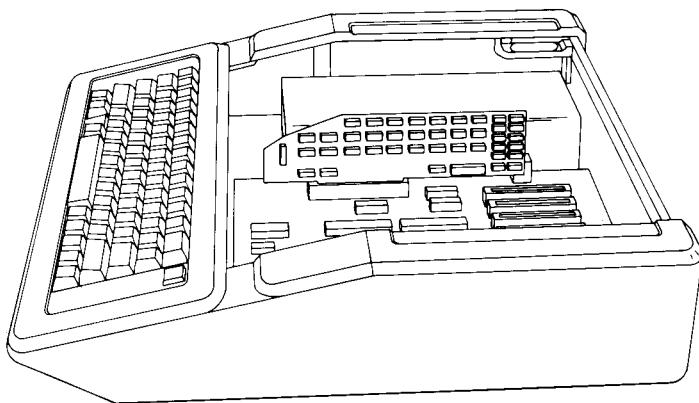

Figure 2.5. Installation of SoftCard IIe
10. Align the SoftCard IIe circuit board in the AUXILIARY CONNECTOR slot so that the edge-connector is directly over the connector in the slot. The component side should face the right side of the chassis. Use Figure 2.5 as a guide.